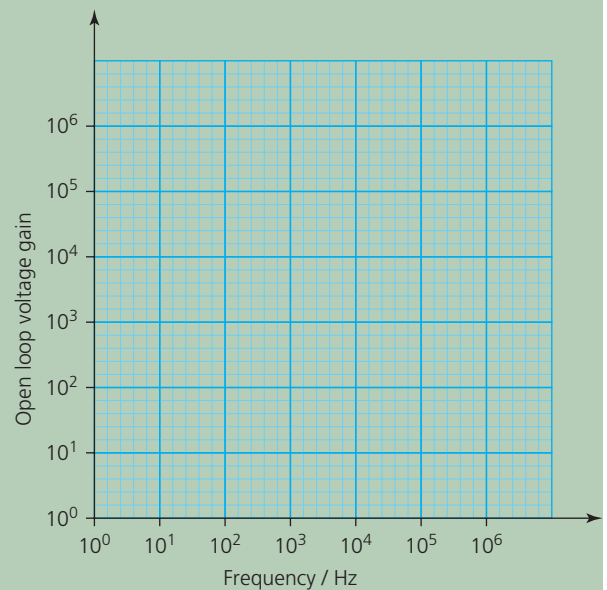

Figure Q3
- The pre-amp has a gain–bandwidth product of  $1 \text{ MHz}$ . Draw a graph using axes as in Figure Q3 to show how the open-loop voltage gain (which can be assumed to be infinite) of the op-amp varies with frequency.